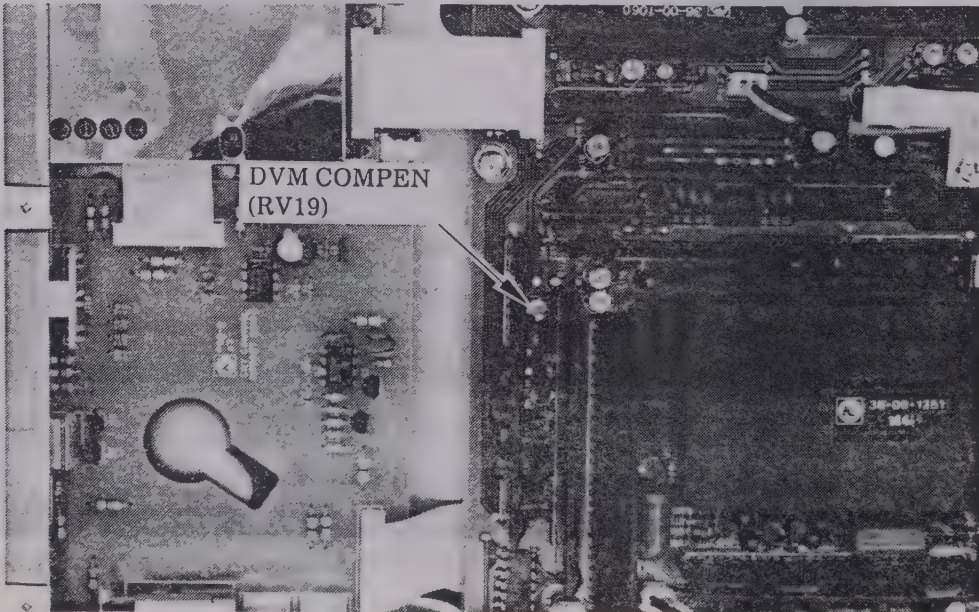

Fig. 4-32 Adjustment position of DVM COMPEN (RV19)
- (4) Confirm that the aberrations of the waveform is within  $\pm 3\%$ . If it is not, adjust DVM COMPEN (RV19) on board A4 shown in Fig. 4-32.